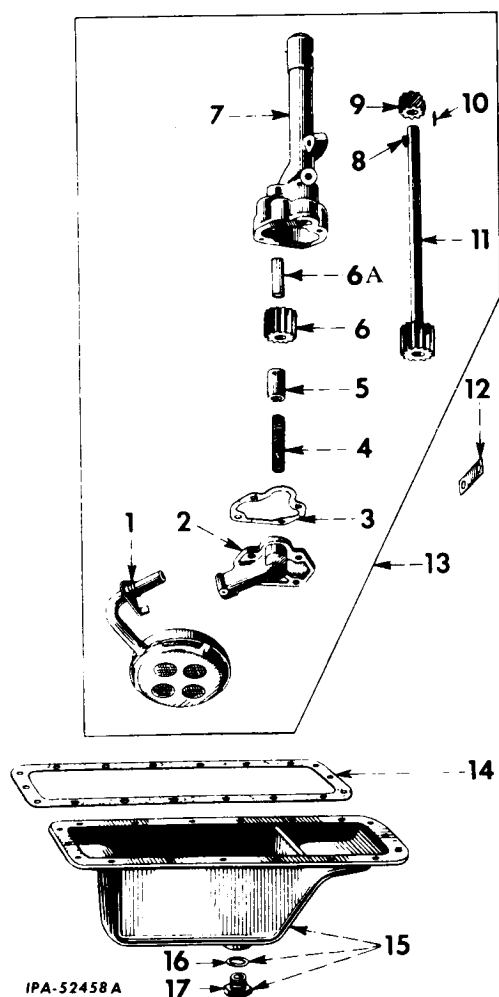

Fig. 6 - Exploded View of Oil Pump.
### 3. DISASSEMBLY (Reference Numbers Refer to Fig. 6).
4. Both the idler shaft and the drive shaft, when assembled, should be square with the inside face of the body within 0.001 inch. Insert the drive shaft (11, Fig. 6) into the body. Place the idler gear (6) on the idler shaft. Use a feeler gauge of the proper thickness (Refer to "SPECIFICATIONS," Section 1) to check the running clearance between the gears and the body bore (Fig. 7).
## 5. REASSEMBLY (Reference Numbers Refer to Fig. 6.)